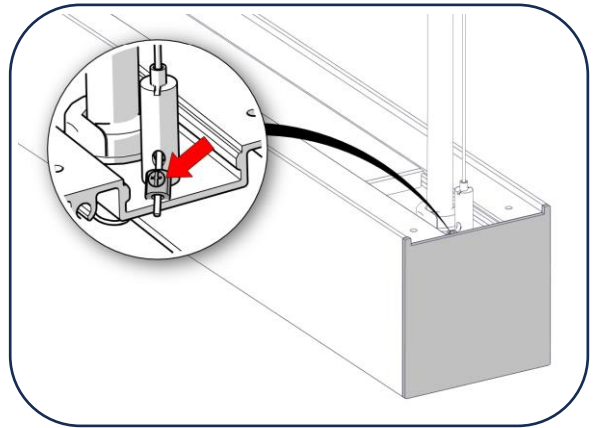

Figure A2
3. Cut the cable and use a **Cable Crimp** to secure the Mounting Cable. [Figure A2]